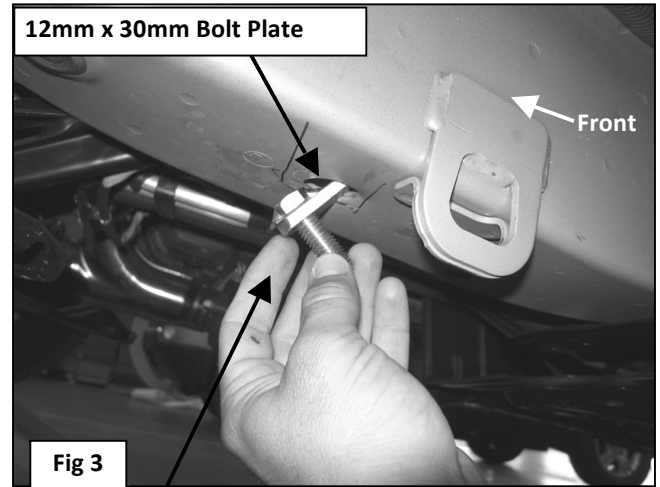

Fig 3
4. Insert (1) 12mm x 30mm Bolt Plate into the factory hole in the inner frame rail located next to the front tie down loop, **(Figure 3)**.